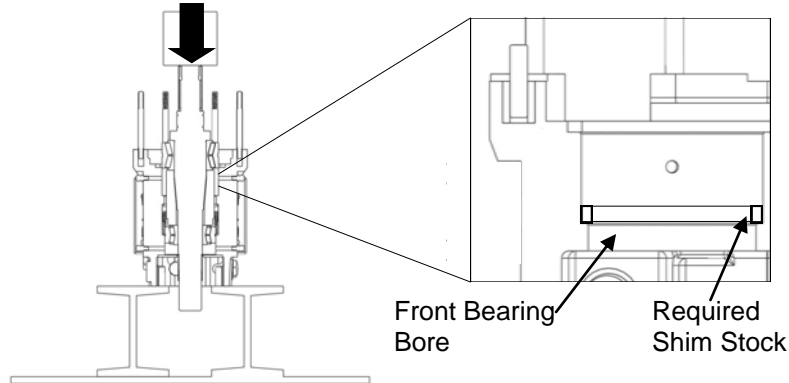

Figure 39: Pressing Shafts into Gear Case
4) Set the gear case on a press with the fluid end side facing up. Place the required thickness of shim stock so it sits on the shoulder of the front shaft bore of gear case. Apply lubricant to the outside of the bearings. Place shaft assembly (one shaft at a time) in the gear case with the rotor end facing up. Making sure that the drive and the short shafts are in the correct bores, press the shafts into gear case until bearings are fully seated (Figure 39). See Table 4 on page 20 for the required force.